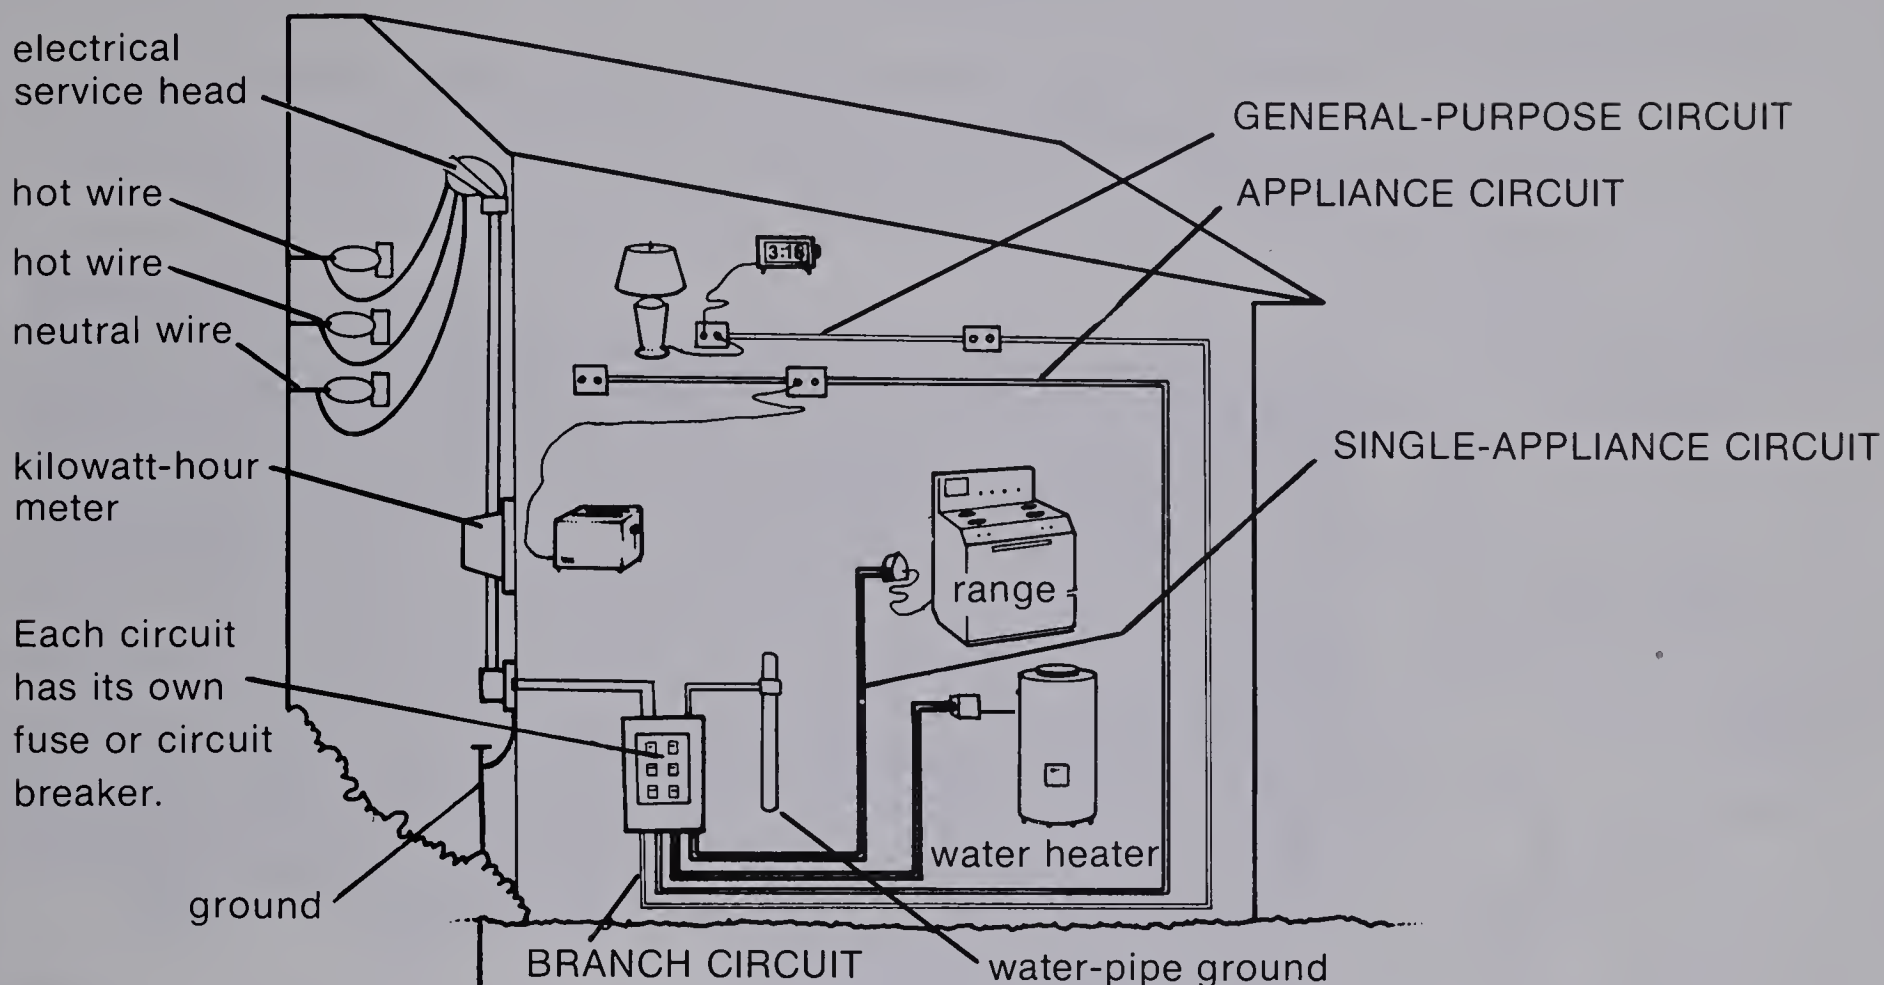

Figure 4-2
Now look at Figure 4-2. This shows the way a house is wired. A water heater and a range take a lot of current. They must be supplied with thick wires. Thinner wires are used for circuits that supply lights or other small appliances. Look at Figure 4-2 carefully, then answer the questions.
★ 4-6. According to Figure 4-2, what are the three kinds of branch circuits commonly used in a home?
- ★ 4-7. In Figure 4-2, which room needs a branch circuit with the largest current capacity?